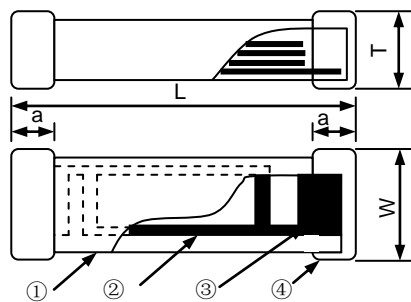
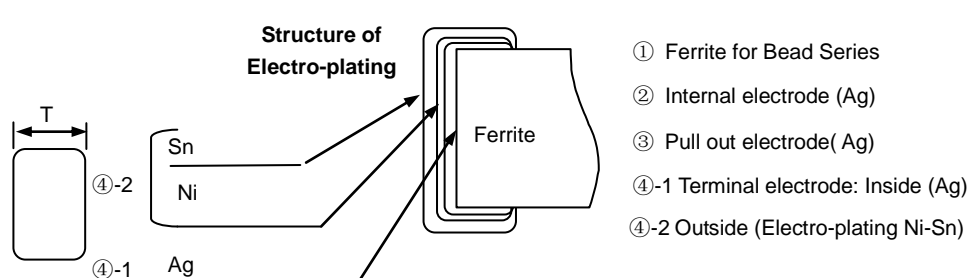

Fig. 4-3
Fig. 4-4
- 2) Structure: See Fig. 4-3 and Fig. 4-4.